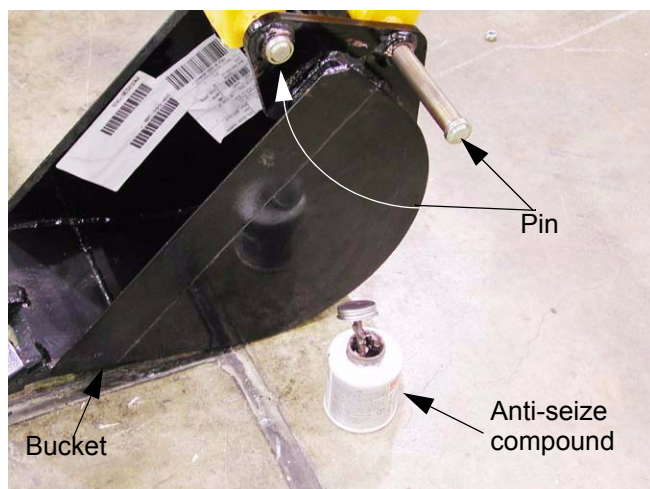

Figure 1.67
- 1.67. If no leaks exist, re-start the engine, lower the stabilizers and manipulate the boom and dipperstick to allow the installation of the bucket. See Figure 1.67.